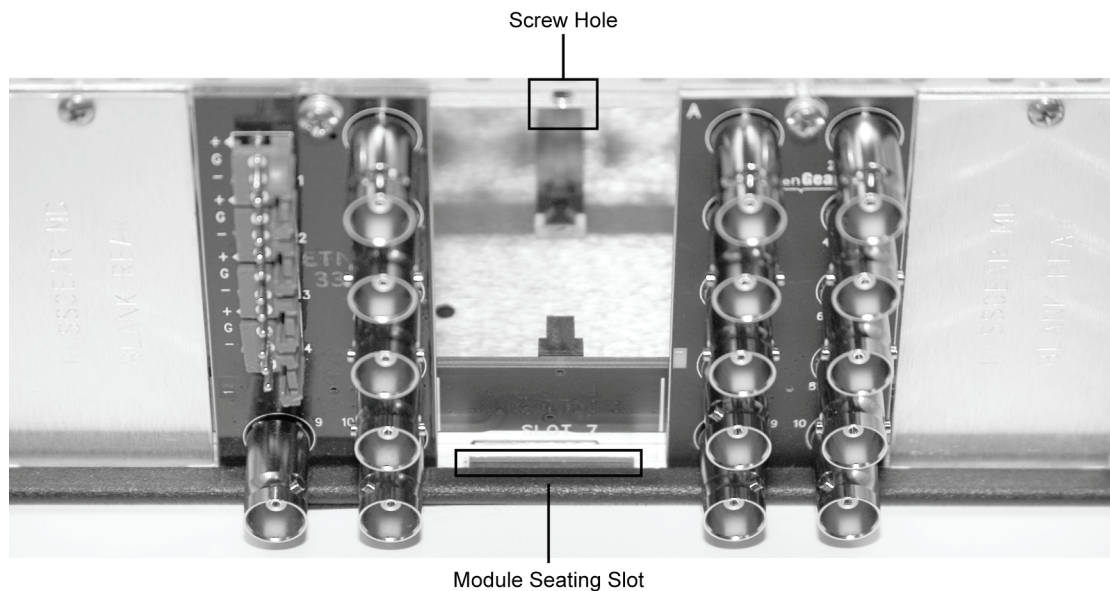

Figure 3. Rear Module Installation (MUX-8252 not shown)
4. As shown in **Figure 3**, seat the bottom of the rear module in the seating slot at the base of the frame's back plane.